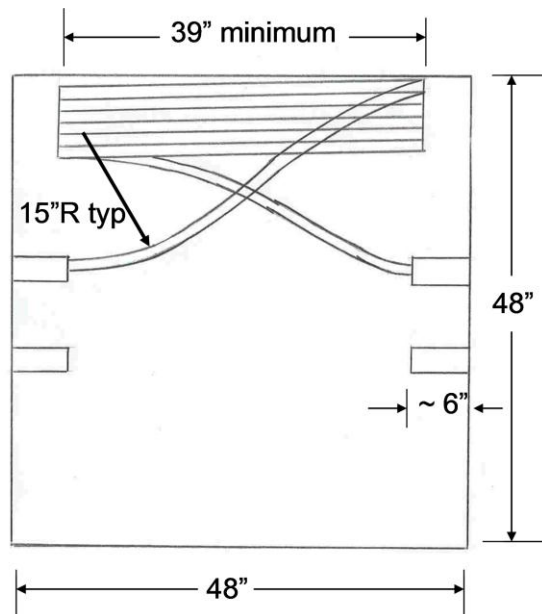

Figure 3 – Routing 864f AccuRiser cable in a 48" x 48" manhole (top view).
4.1 Care must be exercised during cable routing and racking to accommodate the cable's minimum bend diameter as shown in Figure 3. Ideally, the innerduct should be long enough to reach the first vertical rack in the manhole so that it can be used to support and protect the cable. However, this is feasible only in full size manhole structures.